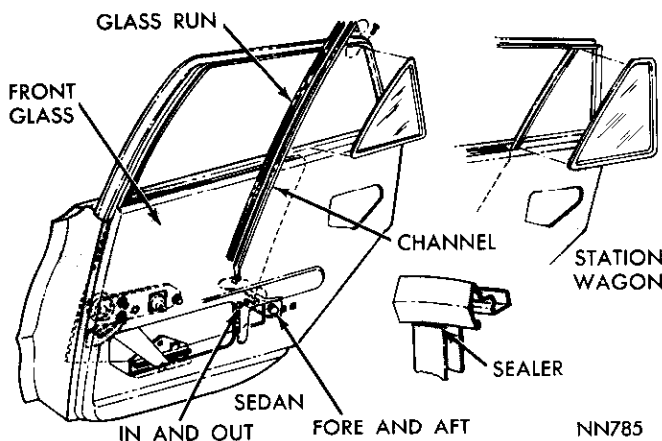

Fig. 42—Rear Door Stationary Glass—Sedan
- (1) Remove division channel attaching screws at upper and lower ends (Fig. 42) and remove channel.
- (2) Move glass and weatherstrip assembly forward and up out of window opening.
- (3) Inspect the weatherstrip.
The division channel run (Fig. 42) is a press fit into the channel. When replacing, apply a 1-1/2 inch length of sealer to the joint area of division channel.